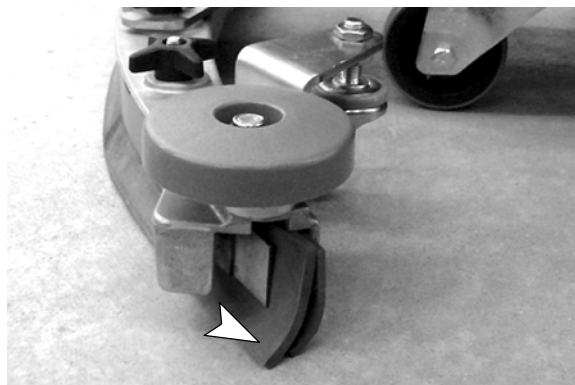

FIG. 63
3. During machine operation, with the casters properly adjusted, the squeegee blades should deflect as shown (Figure 63).